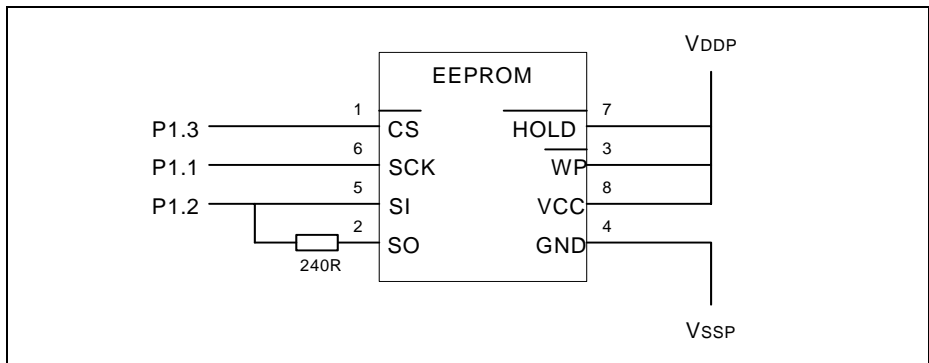

Figure 1 Three-wire connection to SPI EEPROM
The SPI EEPROM is connected to the C868P microcontroller in three-wire configuration as shown in Fig.1. In this configuration, the SPI EEPROM serial data in (SI) and serial data out (SO) are both connected to the same C868P I/O pin, thereby saving a pin. This is possible because the C868P I/O pins can be dynamically reprogrammed as input or output.